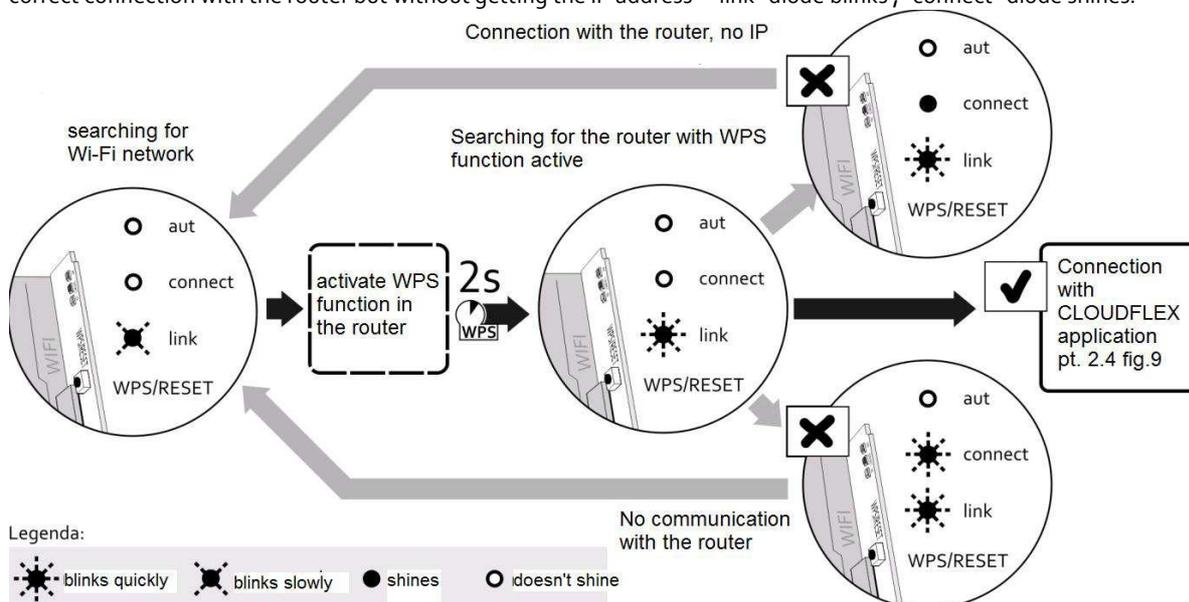
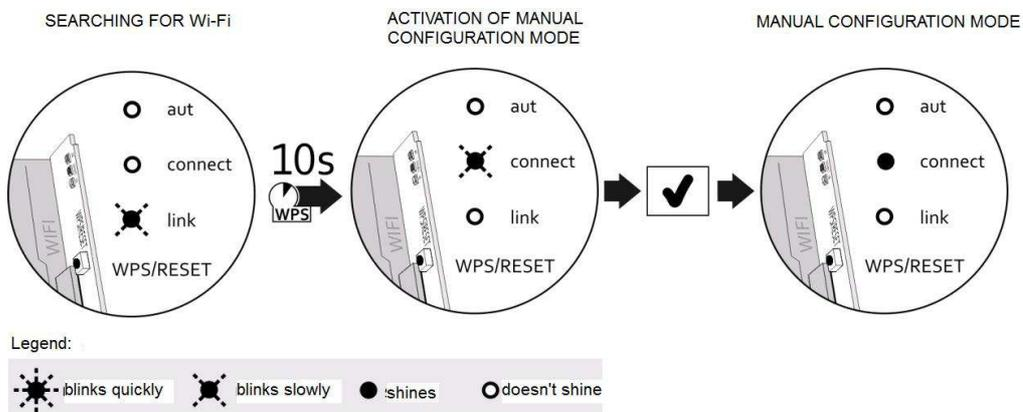

Fig. 4 Automatic acquirement of Wi-Fi settings with the WPS function.
Fig. 5 Manual configuration of the connection with the router – setting the WL card into manual configuration mode.
The configuration should be performed with the use of the WPS mode of the router (fig. 4, pt. 2.1) or manually (switching the card into the manual configuration mode, fig. 5, pt.2.2).
The WL card configuration with the help of the WPS function of the router should proceed as follows (fig. 4):
The WL card will indicate errors that appeared during connecting with the router by signalling diodes (fig. 4 and tbl. 1):
Step 1: hold the WPS/RESET button for about 10 sec. (fig. 5) until a red "connect" diode starts to blink slowly. Blinking of the red "connect" diode means creating of new Wi-Fi network by the WL card. After correct creation of the new Wi-Fi network diode 'connect' shines.